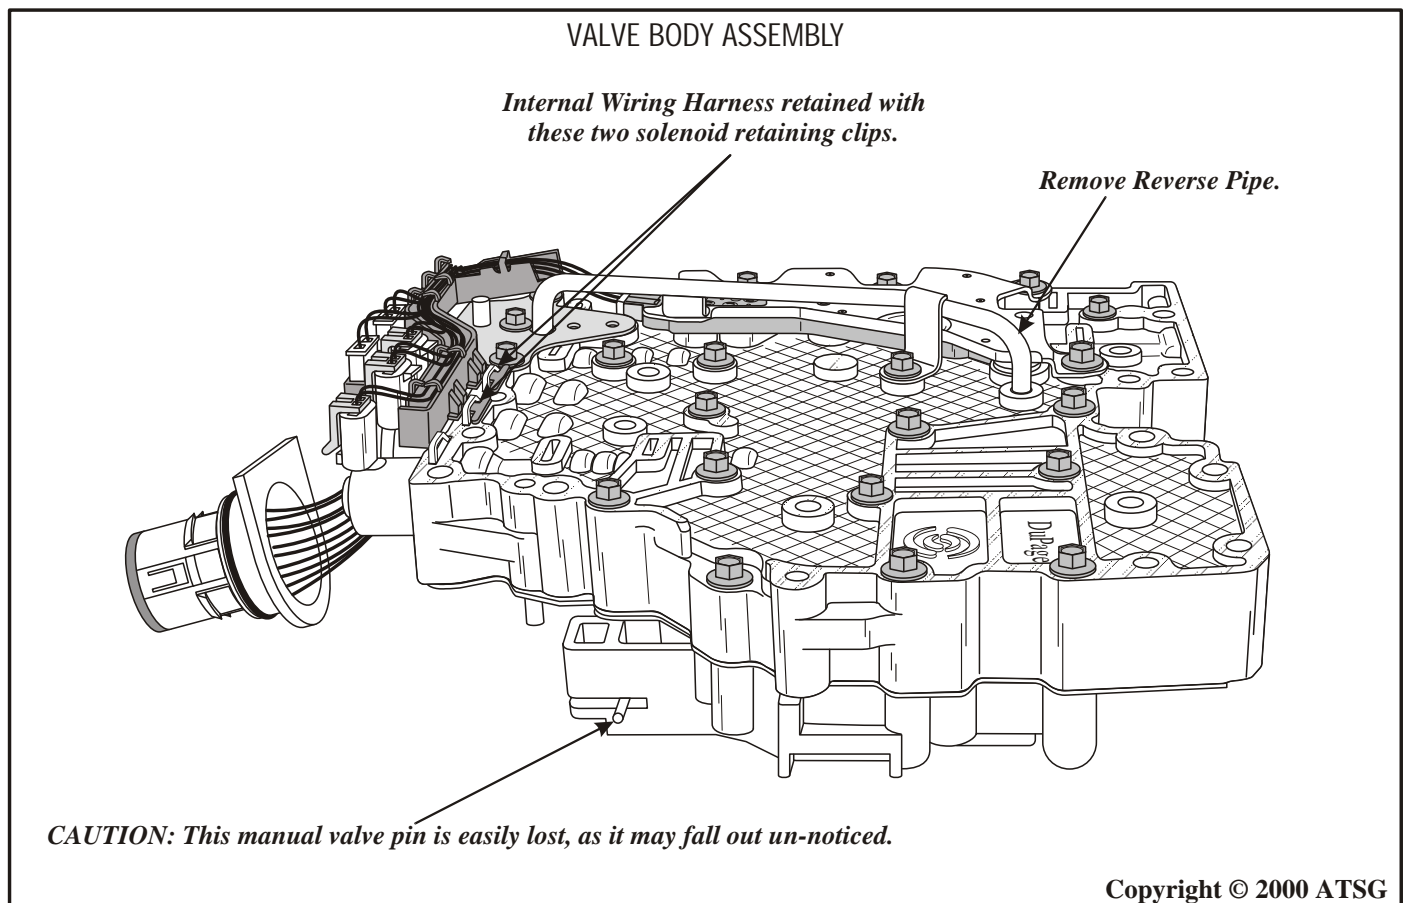

Figure 121
2. Remove the two bolts retaining the reverse pipe, and remove the reverse pipe from valve body assembly (See Figure 121).
Note: Notice the manual valve pin, as shown in Figure 121. This pin can fall out and not be noticed. Remove it now and place in safe place until reassembly.
4. Remove the two solenoid retaining clips from valve body, shown in Figure 121 and remove the internal wire harness assembly.